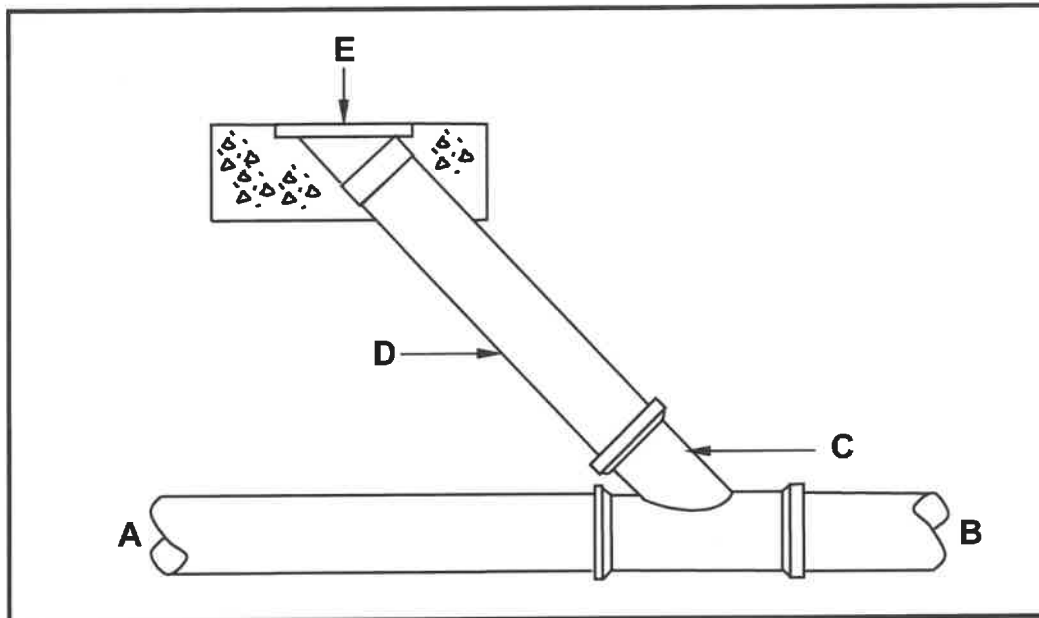

FIGURE 4.1
4.1 FIGURE 4.1 below shows part of a sewerage system.